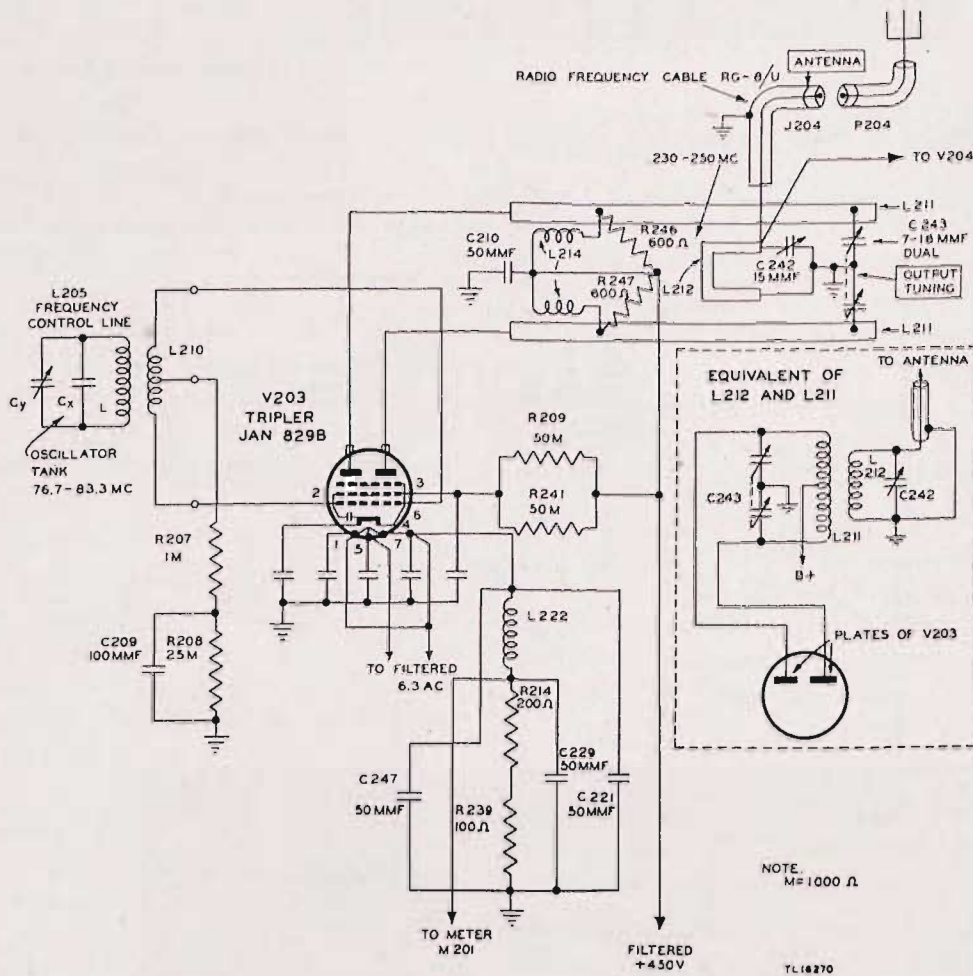

Figure 82. Radio Transmitter T-30/TRC-8 (XC-3), functional diagram of tripler stage.
a. Tube JAN-829-B (V203), the power output stage, operates as a class C frequency tripler (fig. 82). The grids of tube V203 are driven from the tank circuit by means of coupling loop L210. The center tap of the loop is connected to